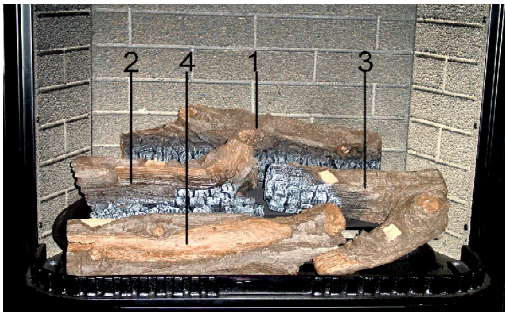

Figure 7
- Fasten decorations logs 4 onto the correspondent angle iron in front of firebox. (See figure 7)